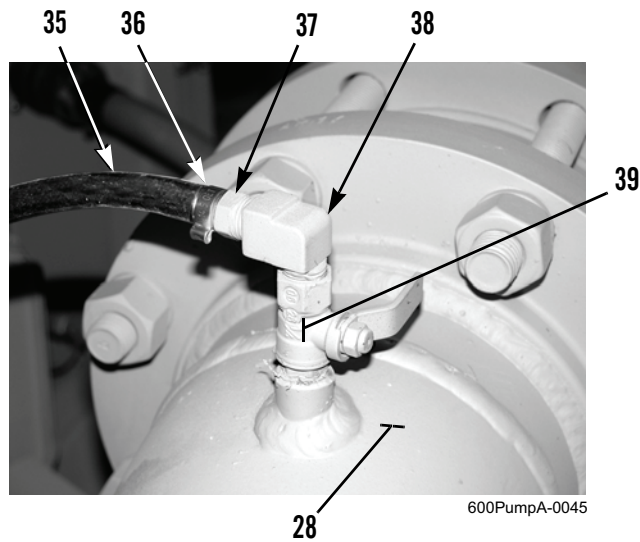

Figure 8. Manual Air Eliminator Valve and Drain Hose.
21. Cut hose clamp (Figure 8, Item 36), hold manual air eliminator valve drain hose (Figure 8, Item 35), and remove barb fitting (Figure 8, Item 37) and hose from elbow fitting (Figure 8, Item 38). Discard hose clamp.
22. Remove elbow fitting (Figure 8, Item 38) from manual air eliminator valve (Figure 8, Item 39).
23. Remove manual air eliminator valve (Figure 8, Item 39) from 90-degree discharge elbow (Figure 8, Item 28).